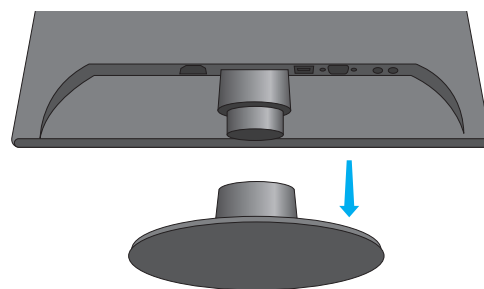

Fig. 1.2
- 3 Remove (if attached) and discard the monitor base stand (see Fig 1.2).